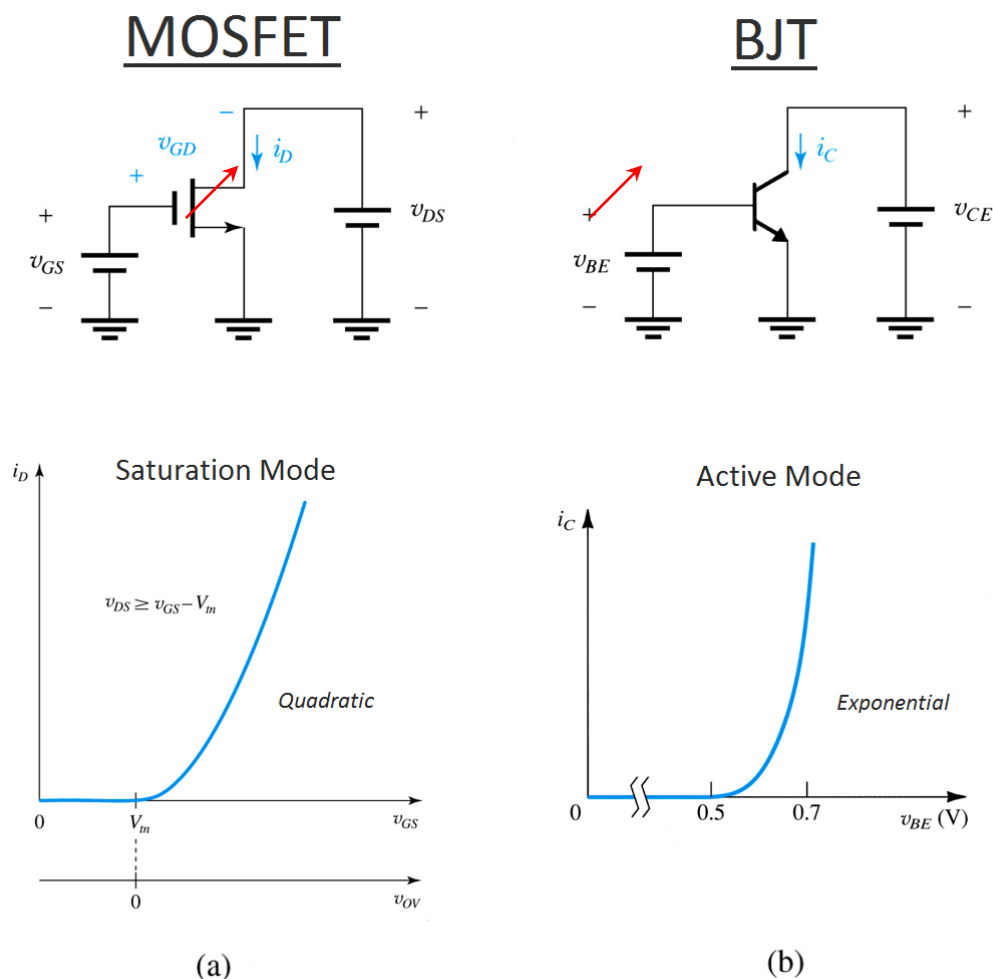
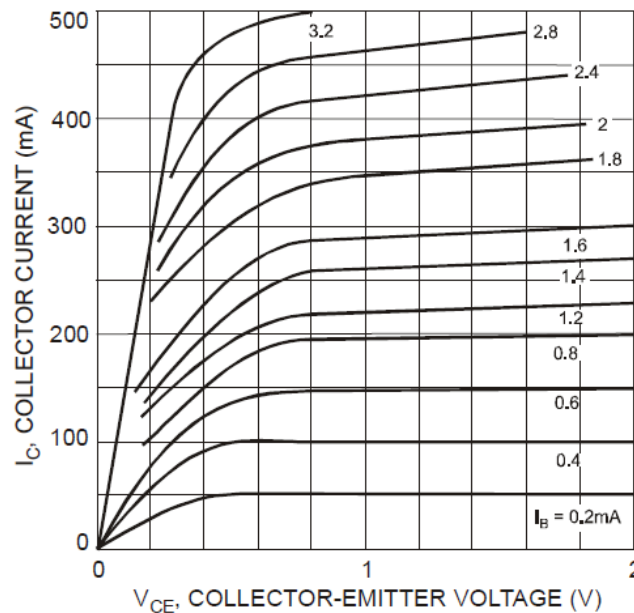
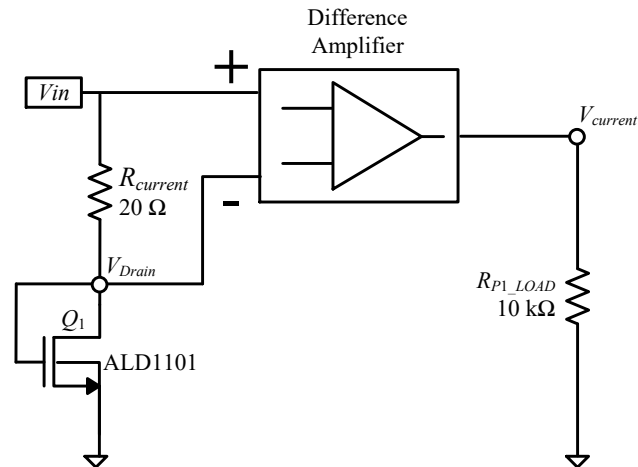
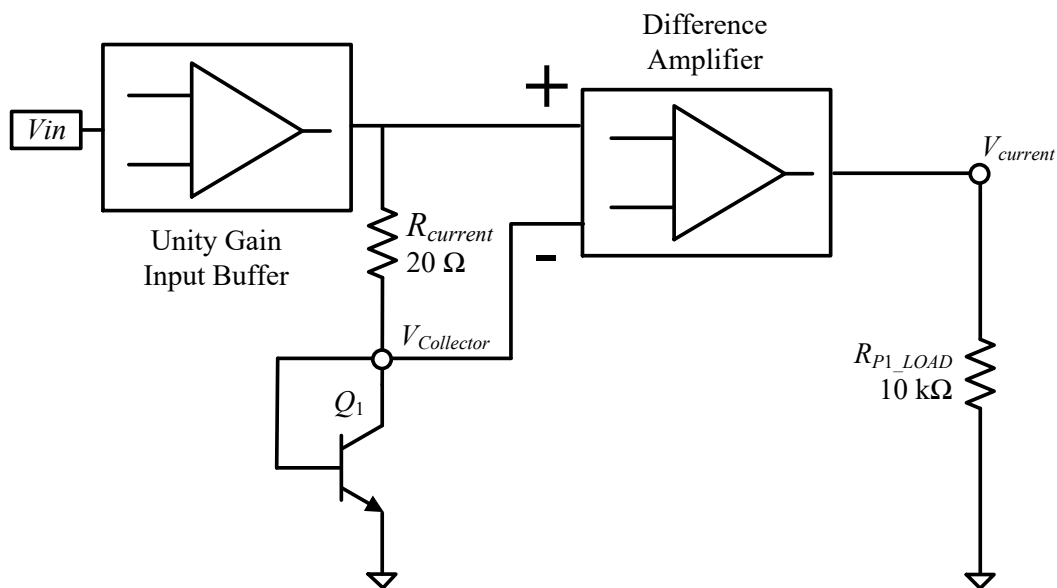

Fig. 8: (a) MOSFET i_D versus v_{GS} characteristic. (b) BJT i_C versus v_{BE} characteristic.
Fig. 10: Measured i_C vs v_{CE} characteristic for the BC817-16
Fig. 14: MOSFET I_D vs. V_{GS} characteristic measurement circuit.
Fig. 16: BJT I_C vs. V_{BE} characteristic measurement circuit.
The I-V characteristics of a BJT have many similarities to those of a MOSFET, but there are several important differences to note. The ideal BJT i_C vs. v_{BE} characteristics are compared to the ideal MOSFET i_D vs. v_{GS} characteristics in Fig. 8. A comparison between the ideal BJT i_C vs. v_{CE} characteristics and the ideal MOSFET i_D vs. v_{DS} characteristics is shown in Fig. 9. The measured BJT i_C vs. v_{CE} characteristic from the datasheet is shown in Fig. 10.
One particularly desirable feature of BJTs for amplifier design is that the signal-signal transconductance, g_m , is proportional to the collector current, I_C , while the MOSFET's transconductance is proportional to $\sqrt{I_D}$. Unlike MOSFETs, which ideally have zero gate current due to the oxide capacitance, BJTs have a finite base current, $I_B = I_C/\beta$, which makes solving both DC and small-signal BJT circuits considerably more complex than MOSFET circuits. When used as a switch in saturation mode, BJTs have a voltage offset of approximately 0.2 V, as shown in Fig. 8(b), while MOSFETs have a purely linear characteristic in the triode region, as shown in Fig. 8(a).
In this portion of the lab we will use the circuit shown in Fig. 14 to observe the I-V curves of an NMOS transistor by using the oscilloscope in XY mode.
- E2 You will first perform the I_D vs. V_{GS} characterization. Config the circuit as shown in Fig. 14. Setup the function generator to output V_{in} as a **8 V_{p-p}, +4 V offset, 100 Hz, triangular wave**. Do not connect V_{in} until you finish the circuit connection and supply 5V to the amplifiers. Use CH1 to probe the voltage V_{drain} at the drain of Q1 ($V_{DS} = V_{GS}$ in this mode). Use CH2 to probe the voltage $V_{current}$ at the output of the difference amplifier ($V_{current} = 100 \cdot i_{DS}$). Set up the oscilloscope in XY mode with CH1 on the x-axis and CH2 on the y-axis; this should resemble Fig. 8(a). Measure the approximate threshold voltage and compare it to the datasheet value. Measure the current in saturation for $V_{GS} = V_{DS} = 5\text{ V}$ and compare to the value in Table 1. Measure the approximate ΔV_{GS} for I_D increasing from 10 mA to 30 mA (refer to eq. (2)) and calculate $g_m = \frac{\Delta I_D}{\Delta V_{GS}}$.
- E6 Set the circuit to as shown in Fig. 16 to characterize ' I_C vs. V_{BE} '. Setup the function generator to output V_{in} as a **5 V_{p-p} , +2.5 V offset, 100 Hz, triangular wave**. Set up the unity gain input buffer using the second amplifier on MCP6002 first. Since the BJT is diode-connected, $V_{BE} = V_{CE}$. Use CH1 on the oscilloscope to measure V_{BE} by measuring $V_{Collector}$. Use CH2 to measure I_C by using the node $V_{CURRENT}$. Set the oscilloscope in XY mode and compare the curve to Fig. 8(b). Measure the approximate ΔV_{BE} for I_C increasing from 10 mA to ~25 mA (refer to eq. (1)) and calculate $g_m = \Delta I_C / \Delta V_{BE}$. Estimate I_s by using the "Dominant I-V characteristic" equation for a BJT listed in Table 4. Compare the calculated values of g_m for the BJT and the MOSFET.
- E7 Setup circuit as below, **set the V_{in} to 0 V before power on**. Now the V_{in} can be used to control I_B for the BJT. **Increase the *ANALOG* by 0.5 V increments up to 2.5 V.** Compare the family of curves to Fig. 10. Set the *ANALOG* to 0 V and increase the *ANALOG* in 0.5 V increments up to 2.5 V. How is the boundary between the saturation and active regions of a BJT different from the boundary between the triode and saturation regions of a MOSFET?